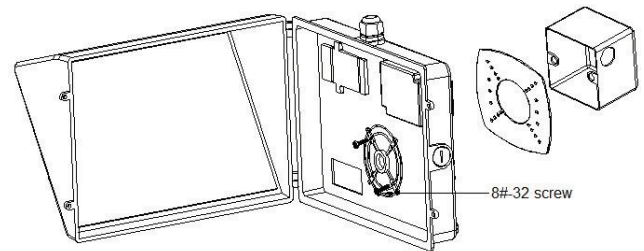

Figure 1
- Step 1:** Open the plastic cover by loosening the screws on the cover parts (4pcs screws), see Figure 1.